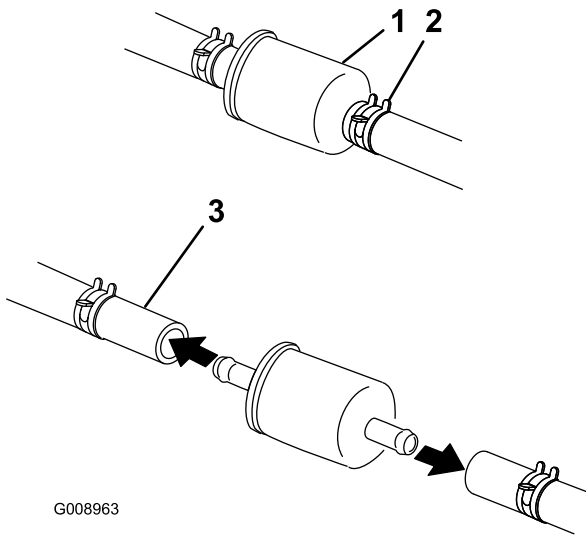

Figure 54
5. Close the fuel shutoff valve under the seat (Figure 54).
6. Squeeze the ends of the hose clamps together and slide them away from the filter (Figure 54).
8. Install a new filter and move the hose clamps close to the filter (Figure 54).